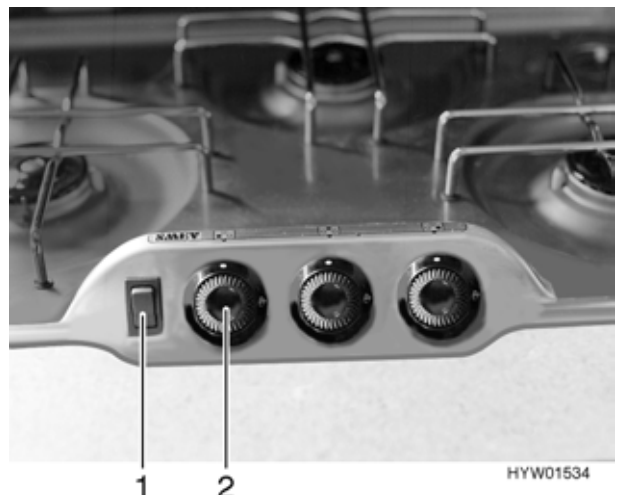

Fig. 124 Operating controls for gas cooker
- Press the control knob (Fig. 124,2), turn to "Max." and hold down until gas flows into the burner.
- Press rocker switch (Fig. 124,1). Ignition sparks are generated at the burner.